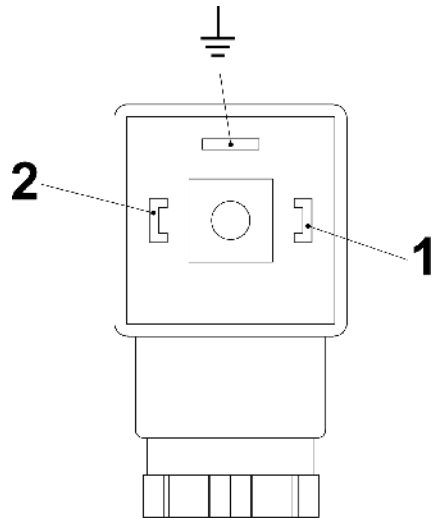
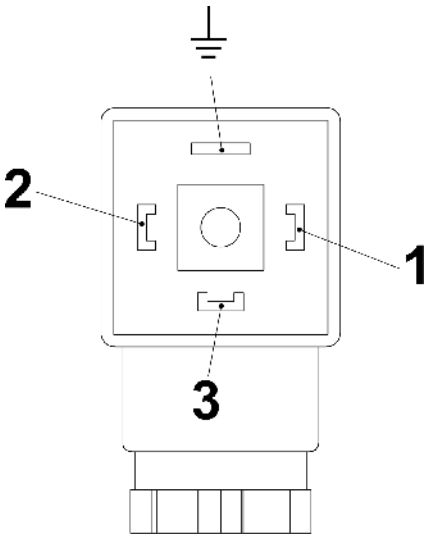

Fig. 23: Pin assignment, plug socket, Normally Open Contact (Form 30x70)
Fig. 24: Pin assignment, plug socket, Change-over contact (Form 30x70)
6. ➤ Make the connections as shown in the connecting diagram (Fig. 23 and Fig. 24)